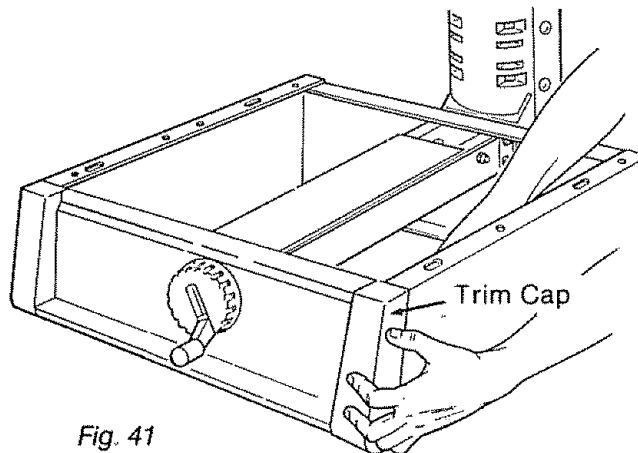

Fig. 41
3. Hold the *right trim cap* in place on the front side of the *saw*. (Figure 41)